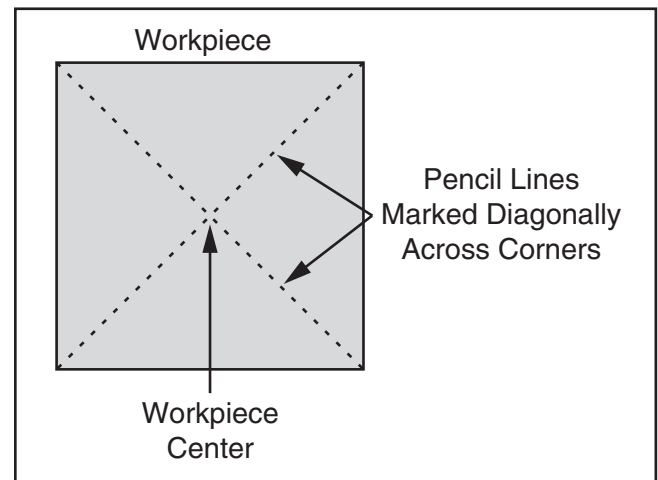

Figure 33. Workpiece marked diagonally from corner to corner to determine the center.
1. Mark both ends of your workpiece by drawing diagonal lines from corner to corner. The intersection point of these lines will show you the center of your workpiece. See the illustration in **Figure 33** for details.